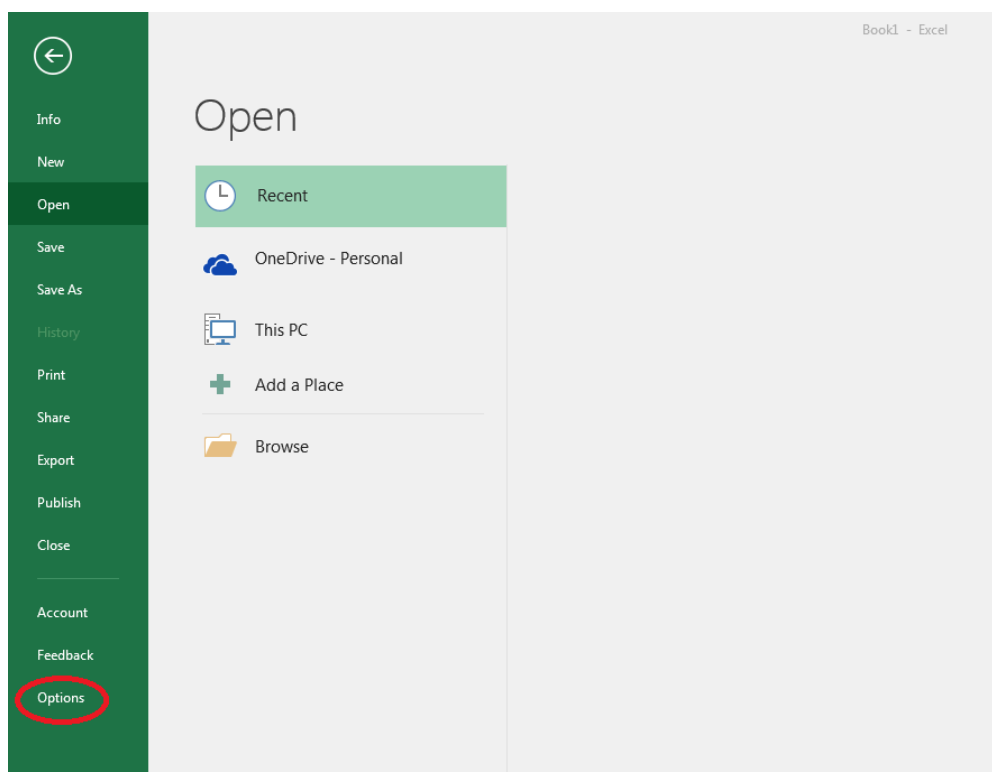

Figure 2.19 Unregistering FluidEXL *Graphics*Stud as Add-In in Excel®
- Click on "Add-Ins" in the next menu (Figure 2.19)